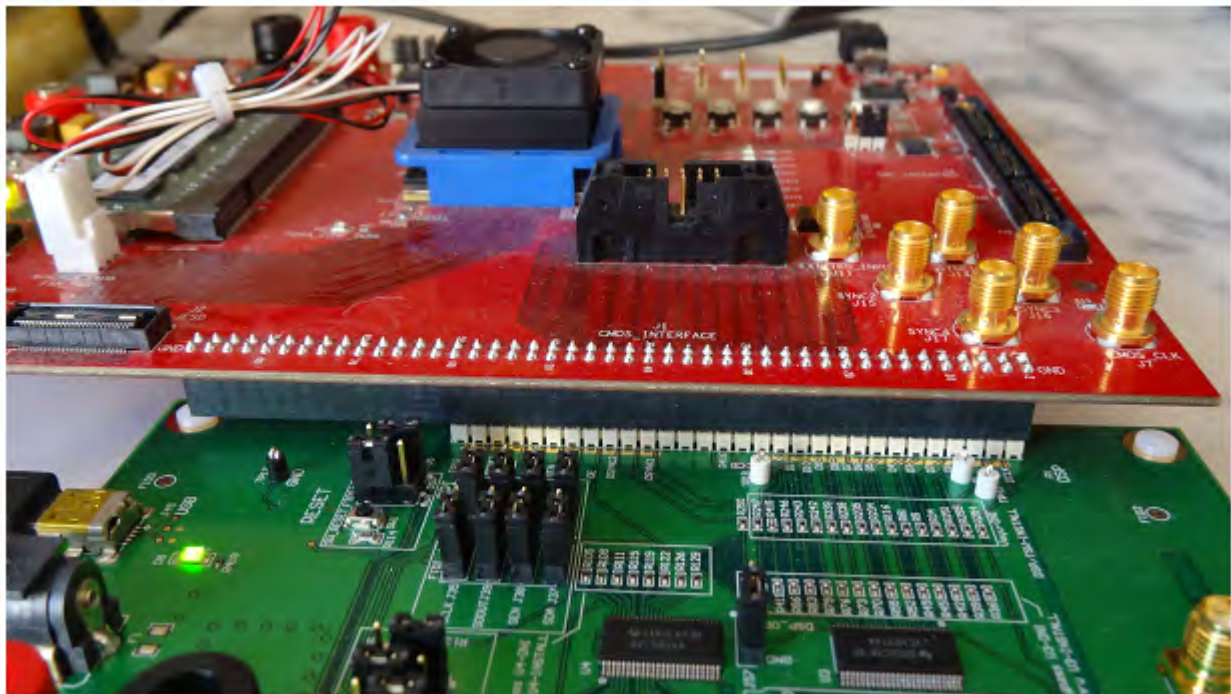

Figure 20. TSW1400 Mated to AFE5401-Q1
1. Mate the TSW1400 EVM at connector **J1 (CMOS\_INTERFACE)** to the AFE5401-Q1 EVM at connector **P1 (DSP)** through the CMOS header connector. The connection should be right justified looking from the CMOS outputs of the AFE5401-Q1 to the TSW1400 EVM as shown in Figure 20.